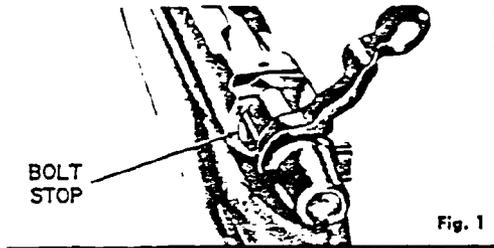

Fig. 1
**TO REMOVE BOLT** — Push safety forward to unlock bolt and raise bolt handle. Pull bolt rearward. Press down on front of bolt stop (located in left rear of bolt channel of receiver) with small, flat key or screw driver (Fig. 1). Allow bolt to slide back and disassemble as bolt stop is passed.
**CLEANING AND CARE** — **Caution:** Make sure rifle is empty of live ammunition before cleaning. To make cleaning of barrel or bolt easier remove bolt from rifle. (See Fig. 1). Use a good petroleum solvent for cleaning of parts.